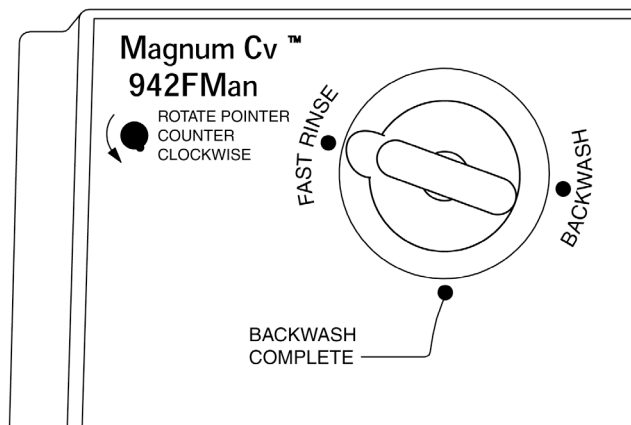

Figure 5.7
2. When the backwash is finished, move the indicator knob **COUNTERCLOCKWISE** to the center of the **Fast Rinse** position (Figure 5.7). The knob should remain in the **Fast Rinse** position for 5 to 20 minutes*, or until the water runs clear at the drain.